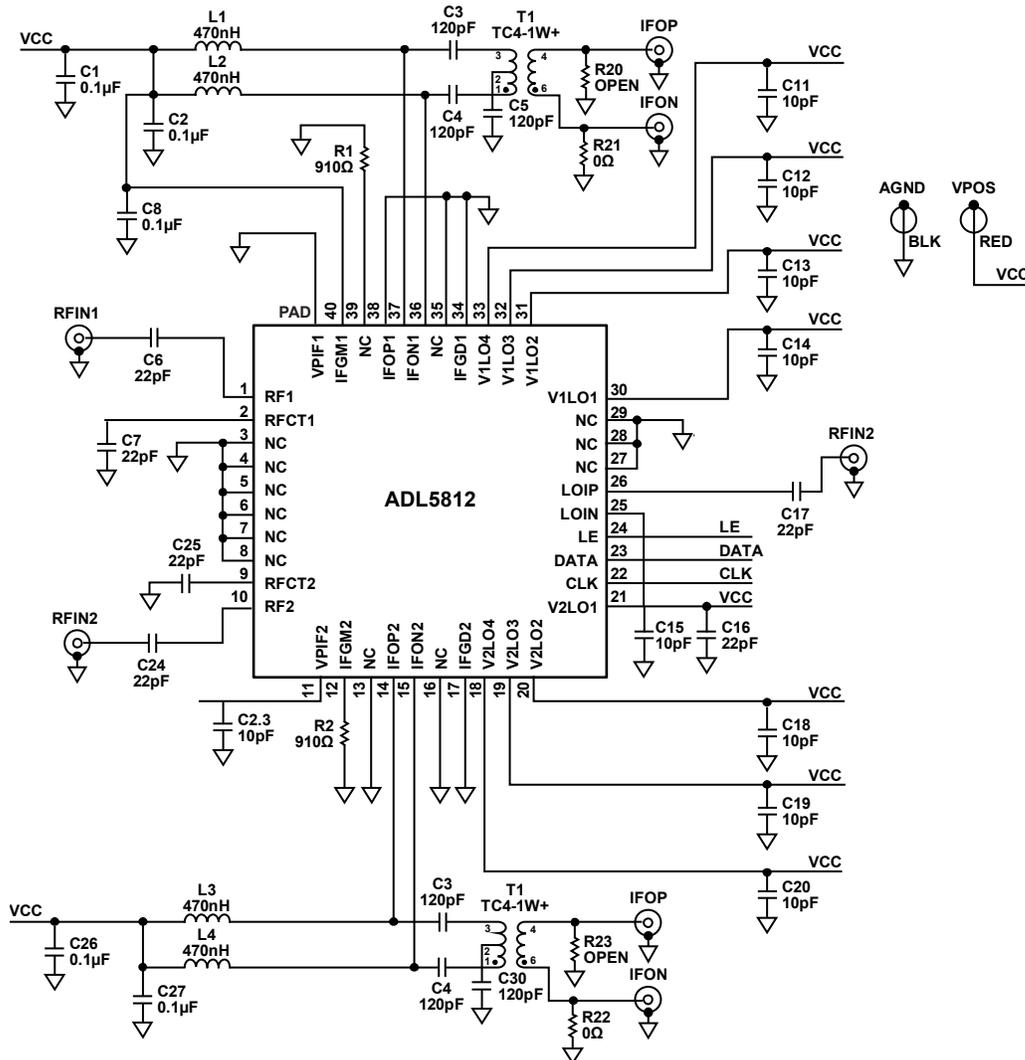

Figure 60. Evaluation Board Schematic
The ADL5812 mixer is designed to downconvert radio frequencies (RF) primarily between 700 MHz and 2800 MHz to lower intermediate frequencies (IF) between 30 MHz and 450 MHz. Figure 60 depicts the basic connections of the mixer. It is recommended to ac couple RF and LO input ports to prevent nonzero dc voltages from damaging the RF balun or LO input circuit. A RFIN capacitor value of 22 pF is recommended.
The real part of the output impedance is approximately 200 Ω, as seen in Figure 31, which matches many commonly used SAW filters without the need for a transformer. This results in a voltage conversion gain that is approximately 6 dB higher than the power conversion gain. When a 50 Ω output impedance is needed, use a 4:1 impedance transformer, as shown in Figure 60.